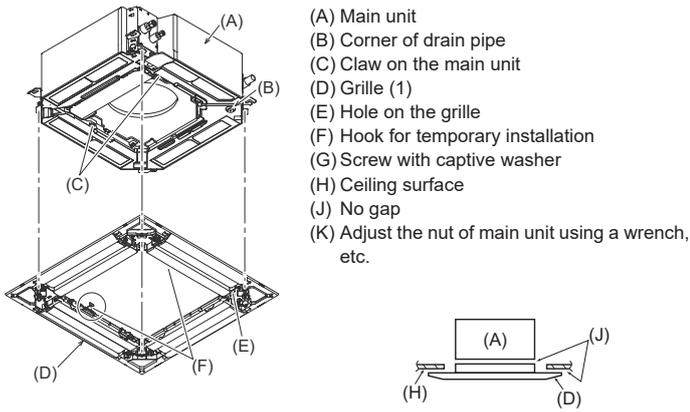

Fig. 7-6
### 7.4.2. Temporary installation of the grille (Fig. 7-6)
- By tightening the pre-installed screws, fix the grille onto the main unit. (Fig. 7-6)
Make sure there is no gap between the main unit and the grille or between the grille and the ceiling surface. (Fig. 7-6)